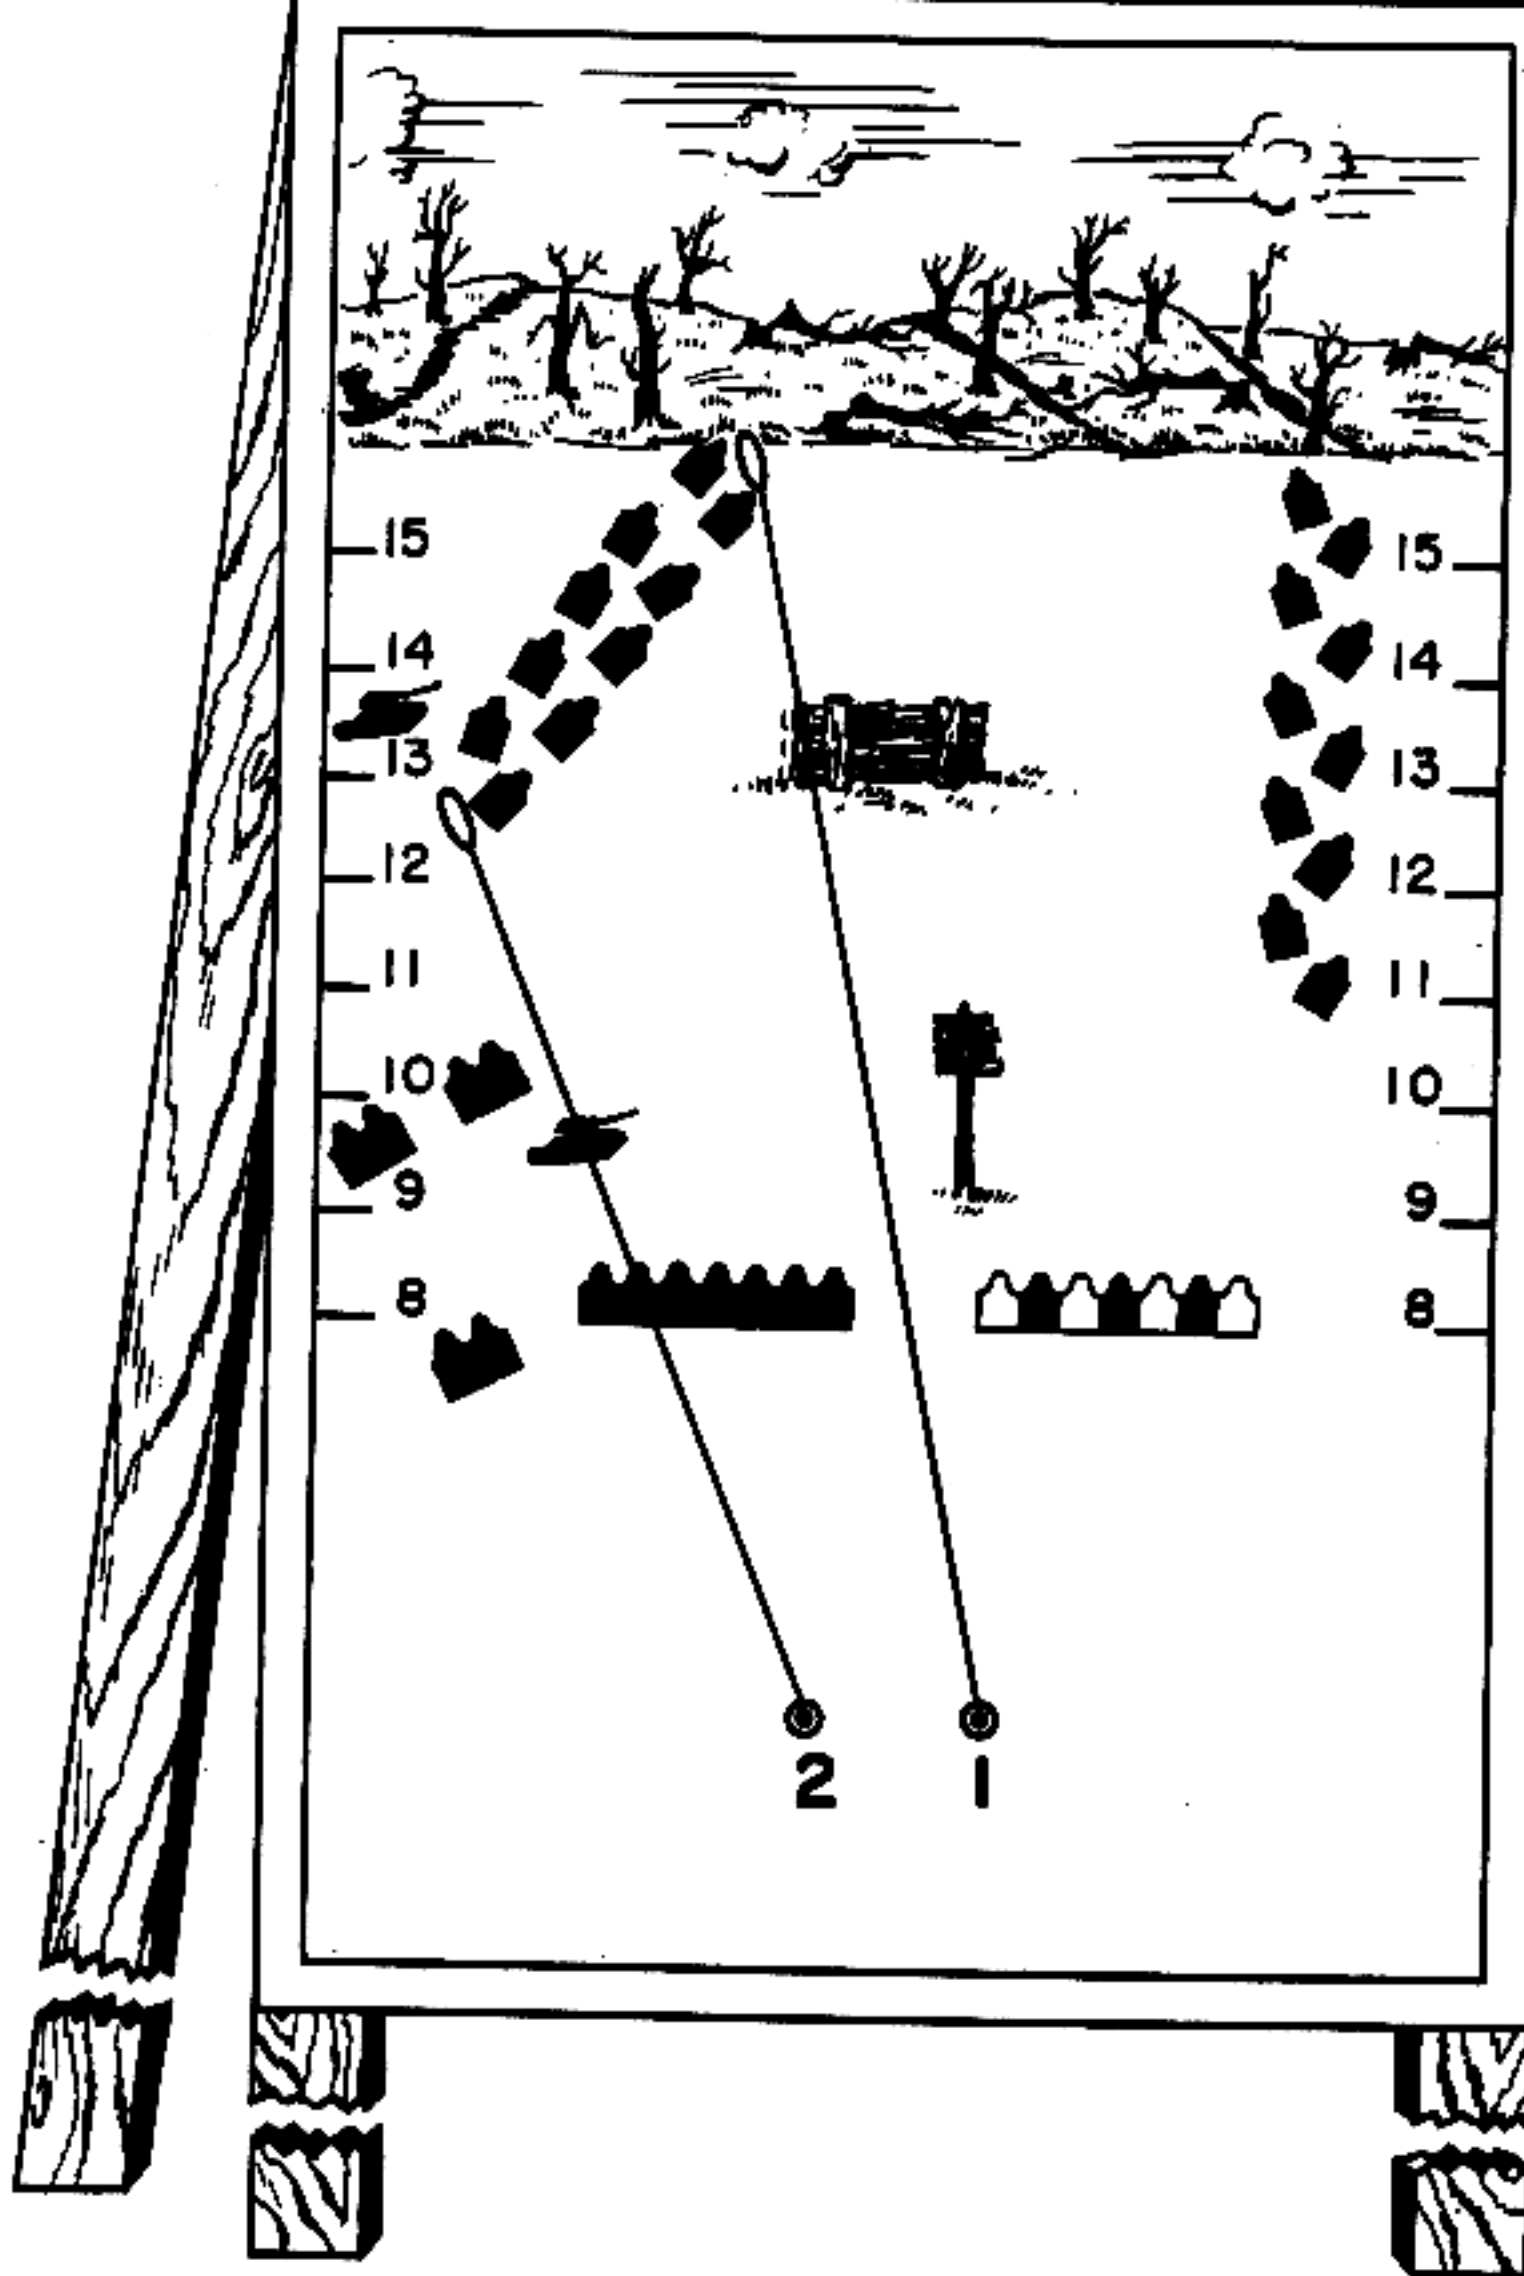

Figure 180. Technique of fire (punahboard).
(1) Explain and demonstrate the engagement of various types of targets (wide, deep, oblique, etc.) using direct laying. Demonstrate methods by using a punchboard (fig 180), if available, and by firing.
(2) In the first demonstration of each type of target, show step-by-step the initial lay, direction of manipulation, and extent of manipulation of the gun (or each gun when employed in pairs). Fire the remaining demonstrations of each type of target in the normal manner.
(3) Follow the conference and demonstration of each type target with practical work. The assistant instructor in charge of the smaller group breaks the group down into gun crews, and designates crew leaders and crews to fire the guns singly, or in pairs. The crew leader then gives the fire command, which is placed on a blackboard. It is corrected, and the gun crew(s) take appropriate action to prepare to engage the designated target. The crew(s) engages the target, and the group critiques their firing and performance. After the critique, other crews are designated. Follow the same procedure throughout practical work, engaging as many targets as time permits.